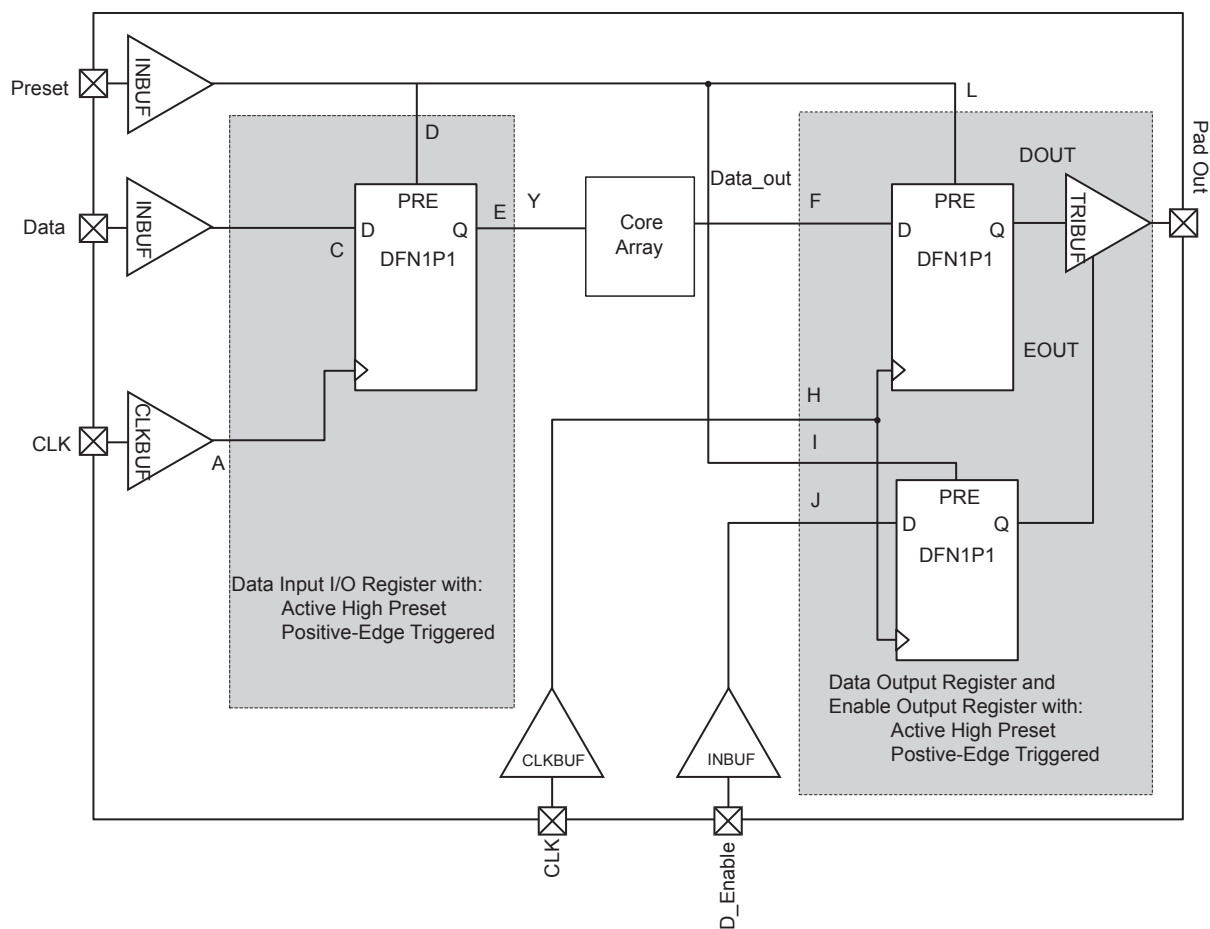

**Figure 2-12 • Timing Model of Registered I/O Buffers with Asynchronous Preset**
*Note:* \*See Figure 2-12 on page 2-41 for more information.